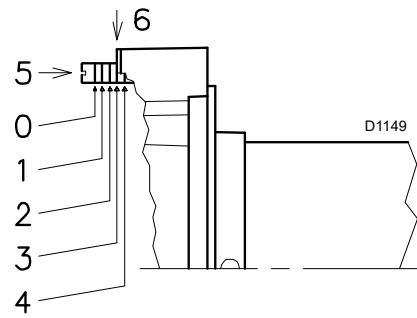
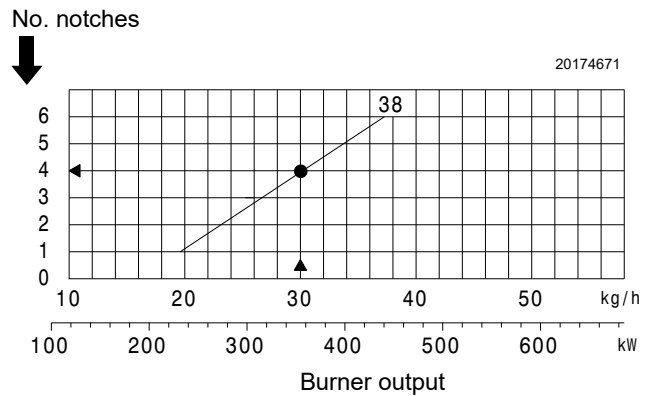

Fig. 17
Fig. 18
- Turn the screw 5)(Fig. 17) until the notch indicated by the diagram (Fig. 18) corresponds with the front part of the flange 6)(Fig. 17).
- The diagram (Fig. 18) shows that for this output, the adjustment of the combustion head is carried out on the notch 4, as in Fig. 17.